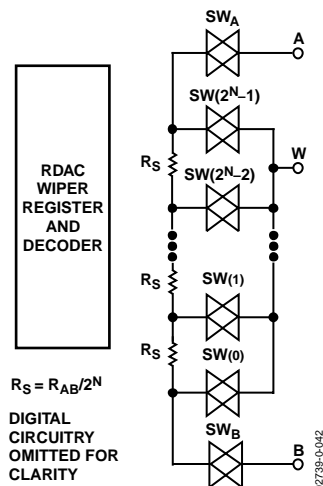

Figure 43. Equivalent RDAC Structure (Patent Pending)
The patent-pending RDAC contains multiple strings of equal resistor segments with an array of analog switches that act as the wiper connection. The number of positions is the resolution of the device. The AD5231 has 1024 connection points, allowing it to provide better than 0.1% settability resolution. Figure 43 shows an equivalent structure of the connections among the three terminals of the RDAC. The SWA and SWB are always on, while the switches SW(0) to SW(2N–1) are on one at a time, depending on the resistance position decoded from the data bits. Because the switch is not ideal, there is a 15  $\Omega$  wiper resistance, Rw. Wiper resistance is a function of supply voltage and temperature. The lower the supply voltage or the higher the temperature, the higher the resulting wiper resistance. Users should be aware of the wiper resistance dynamics if accurate prediction of the output resistance is needed.
The 10-bit data-word in the RDAC latch is decoded to select one of the 1024 possible settings. The following discussion describes the calculation of resistance RWB at different codes of a 10 k $\Omega$  part. For VDD = 5 V, the wiper's first connection starts at Terminal B for data 0x000. RWB(0) is 15  $\Omega$  because of the wiper resistance, and because it is independent of the nominal resistance. The second connection is the first tap point where RWB(1) becomes 9.7  $\Omega$  + 15  $\Omega$  = 24.7  $\Omega$  for data 0x001. The third connection is the next tap point representing RWB(2) = 19.4  $\Omega$  + 15  $\Omega$  = 34.4  $\Omega$  for data 0x002 and so on. Each LSB data value increase moves the wiper up the resistor ladder until the last tap point is reached at RWB(1023) = 10005  $\Omega$ . See Figure 43 for a simplified diagram of the equivalent RDAC circuit. When RWB is used, Terminal A can be left floating or tied to the wiper.